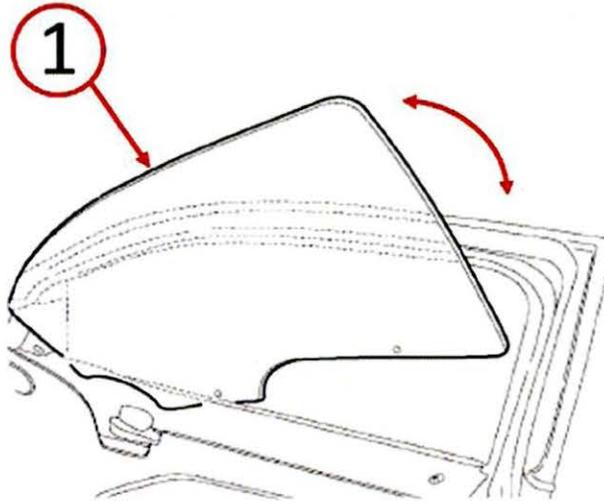

Fig. 4 Window Glass
5. Front door only, remove the front door glass from the door window channel and carefully place it in a safe location (Fig. 4).